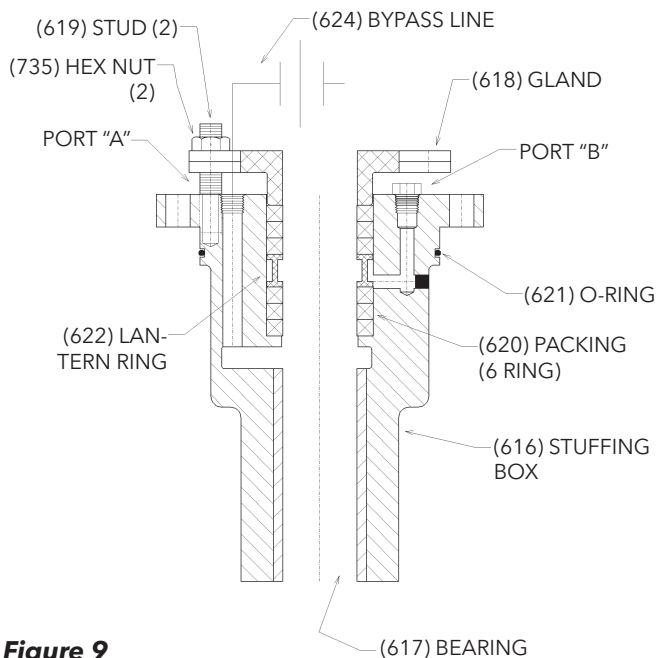

Figure 9
1. If the stuffing box (See Fig. 9) or tension nut (See Fig. 10) is assembled to the head, remove it and all the attached piping.
2. For threaded column, check to be sure that the column flange (637) is securely attached to the bottom of the discharge head. Check and tighten the capscrews (or socket head screw) gradually in diametrically opposite pairs.
Assemble stuffing box as shown in Figure 9.